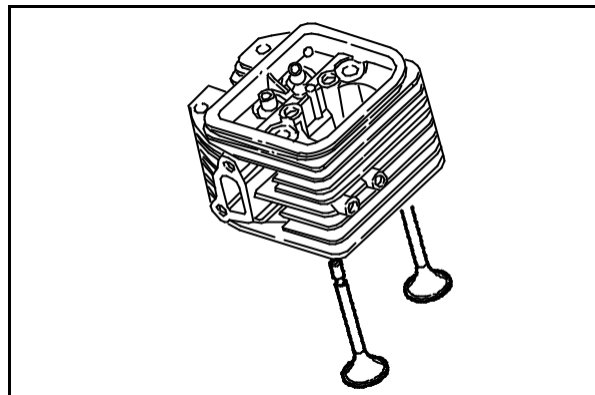

Fig. 18
2. Install valves, **Fig. 18**.